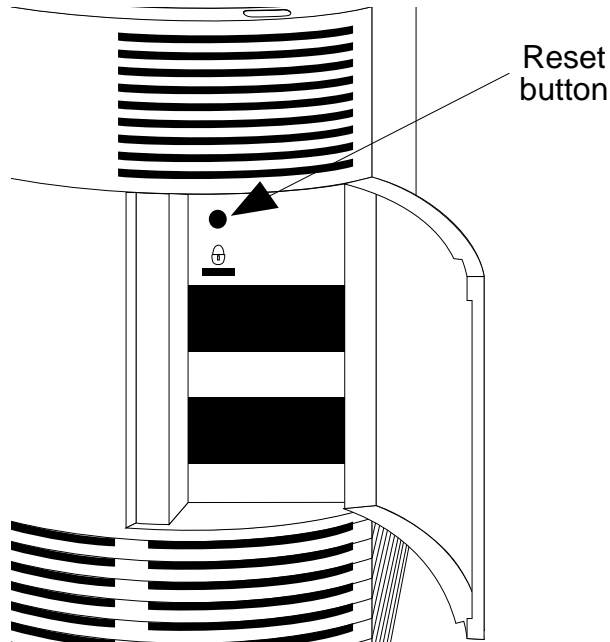

Figure 6-2 Pressing the Reset Button
3. If the system is malfunctioning and you cannot communicate with it using the mouse or keyboard, or over the network, then press the **RESET** button located behind the front door on the front of the Indigo chassis, as shown in Figure 6-2.